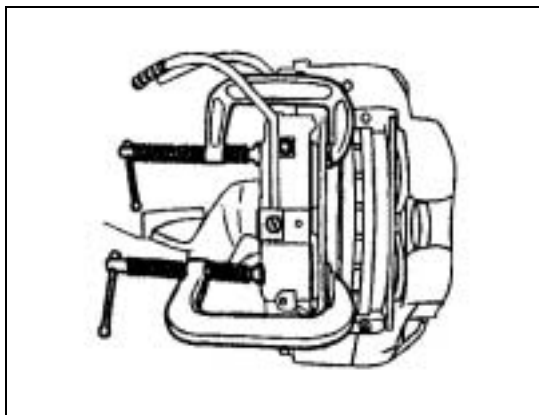

Figure 4
5. Compress the caliper pistons. **Figure 4.**